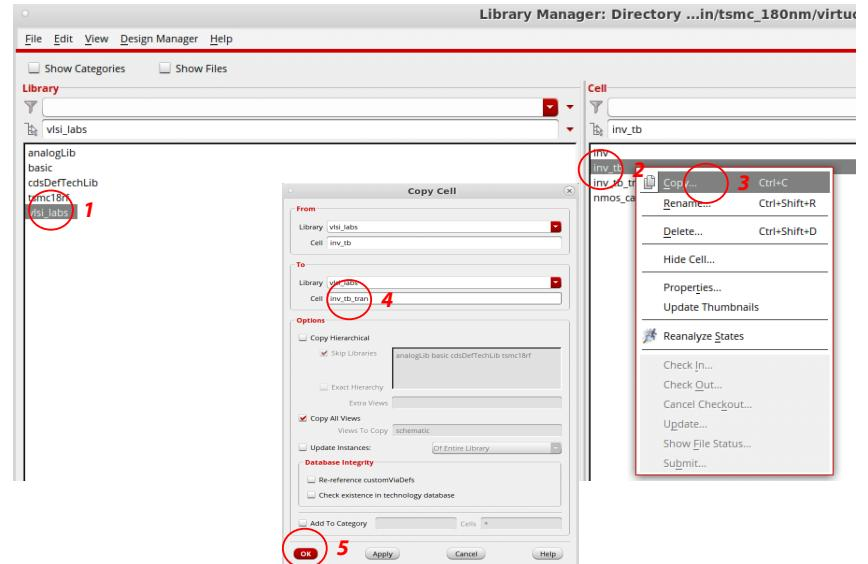

Figure 22: Copying a cell.
- On the window, select the name you want (*inv_testbench_tran* for instance) for this new testbench in the appropriate field and click OK (Fig. 22).